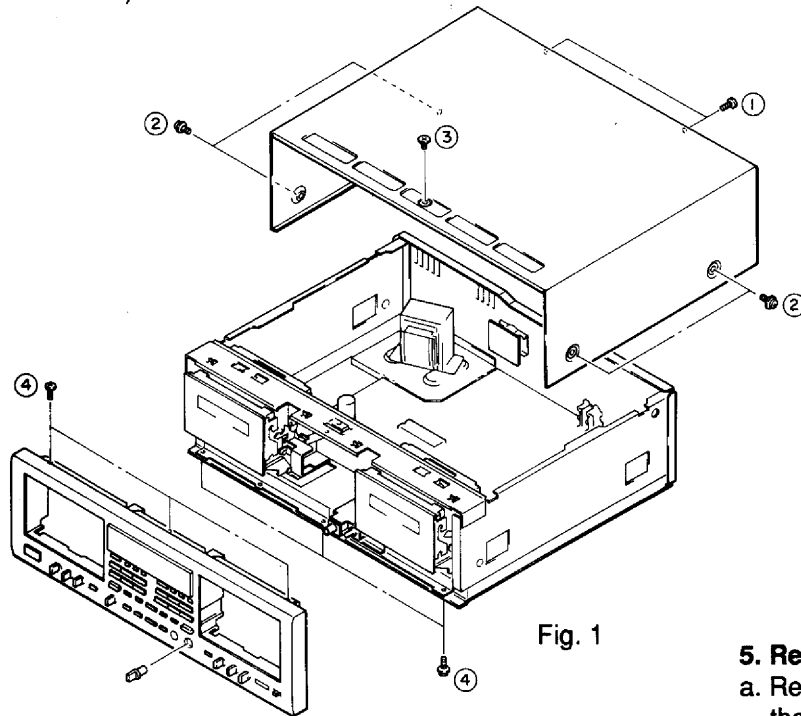

Fig. 1
a. Remove the 7 screws (①, ②, ③) in fig. 1.
a. Remove the 6 screws (④) in fig. 1.
b. Remove the 1 knob (PHONES LEVEL) in fig. 1.